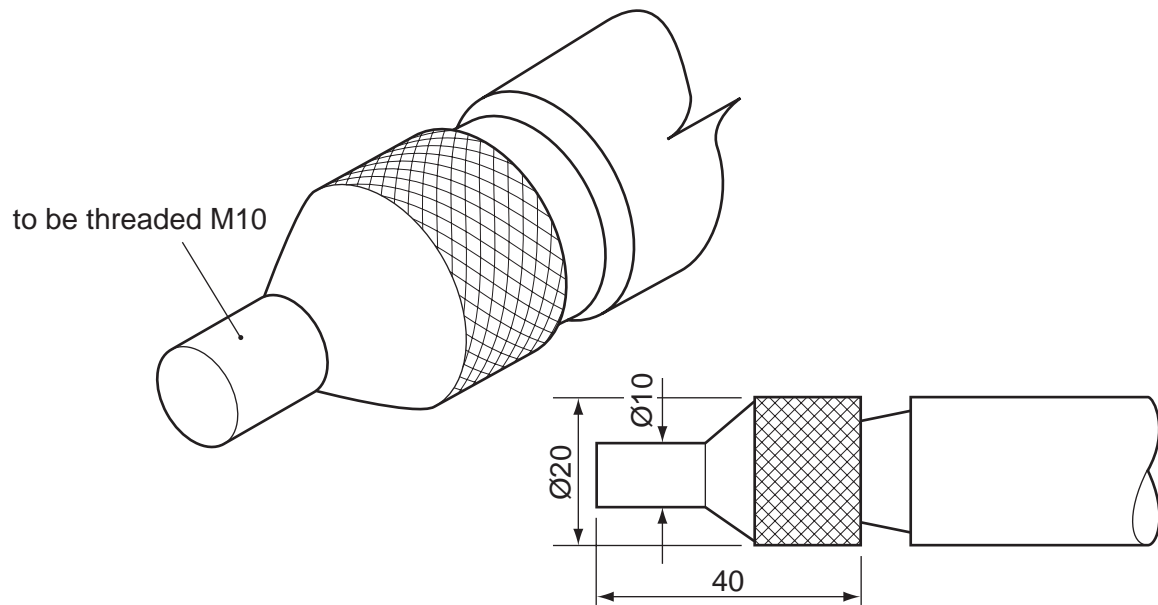

Fig. 7
- 5 Fig. 7 shows a piece of aluminium which has been turned on a centre lathe in preparation for an M10 thread.